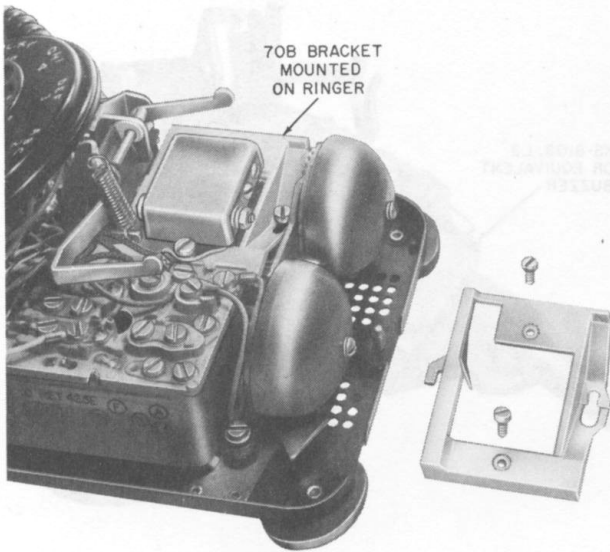

Fig. 12—70B Bracket
3.05 When mounting KS-8108, 9, and 10 type buzzers on a 70B bracket (Fig. 12) position the buzzer so that it will not interfere with the electrical or mechanical operation of the telephone set, and so the buzzer adjustment screw is accessible.